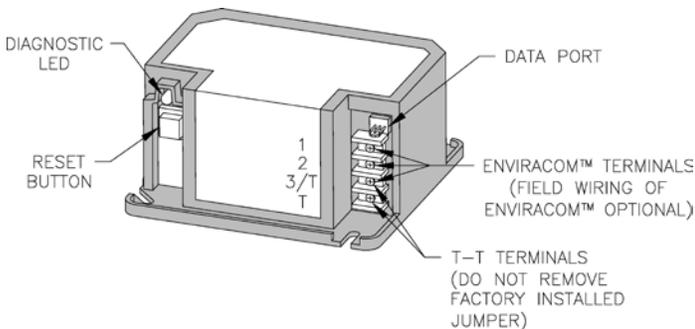

Figure 25: R7184 Terminals, LED and Reset Button
i. The R7184 is a microprocessor-based control. The indicator light provides diagnostic information for lockout, recycling and patented cad cell status. There is a manual reset button to exit the Lockout Mode and enter the Idle Mode (see Figure 25).
- v. T-T Jumper: Select models have pre-installed T-T jumper. Do not remove jumper. See Figure 25.